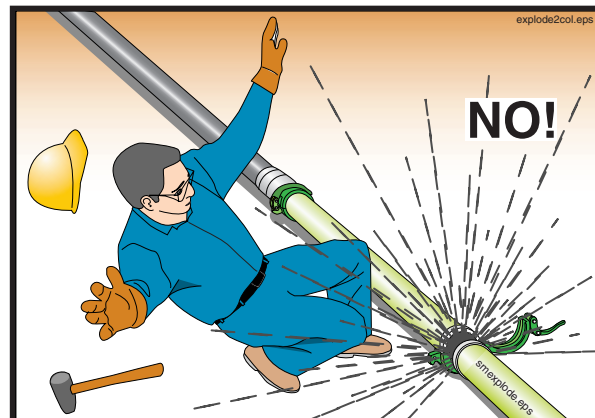

Figure 83
- 17.9 **⚠ WARNING** Never open a pressurized pipeline (Figure 83). The pump operator must release the pressure before you open the line. If the line is pressurized with compressed air, let the operator release the pressure and verify that the air has escaped before you proceed.